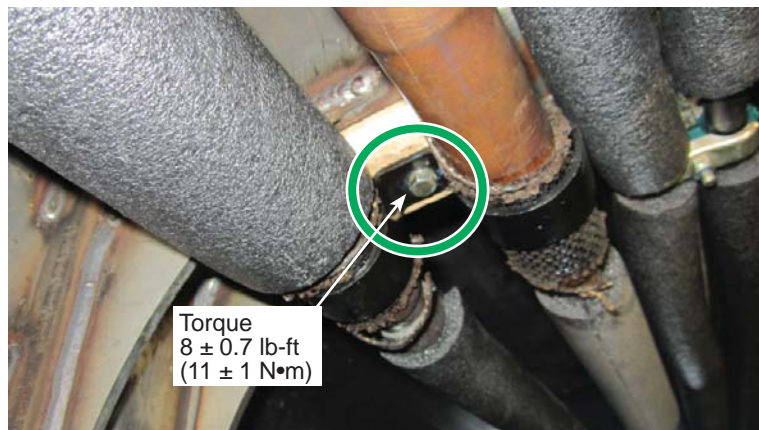

Figure 2 - Typical Heating Pipe Support Bolts
- 1.2. Remove one of the thirteen heating pipe support bolts (FRONT: six on street side; REAR: four on street side and three on curb side). See Figure 2.
- 1.6. Apply specified torque to all thirteen bolts. See Figure 2.